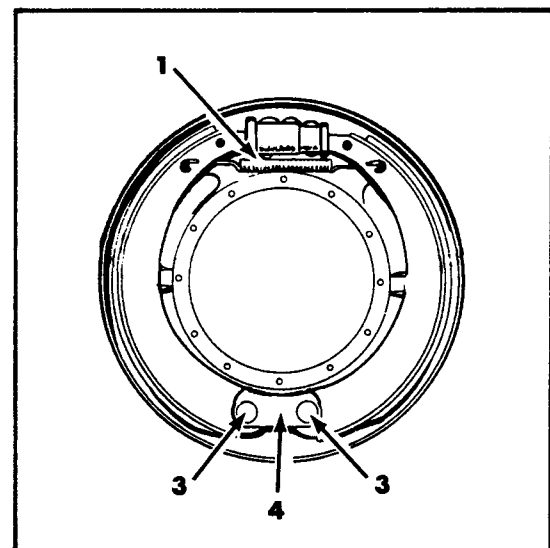

Figure 8. Shoe Removal
(Fig 8)
2. Use the brake spring pliers to remove shoe return springs (1). (Fig. 8 ).
3. Disassemble anchor pins (3) from backing plate assembly. (See Fig. 8 ).
1. Assemble the anchor pins (3) to plate (4); the brake shoes to the pins and then, the entire assembly to the backing plate. Mount and tighten the anchor pin nuts. (See Fig. 8 ).
2. Use the brake spring pliers to assemble the brake shoe return spring (1) to shoes.